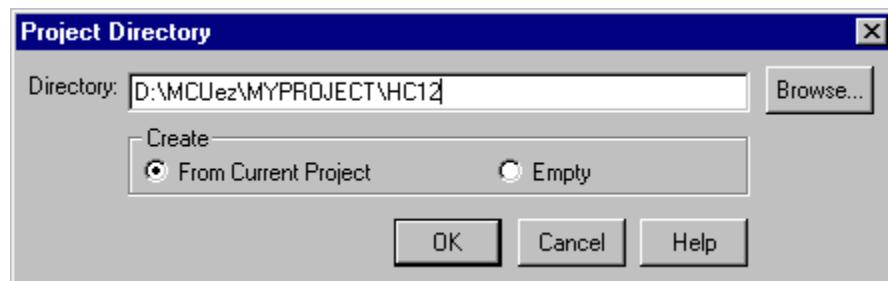

Figure 3-4. Defining a New Project
4. Enter the directory path or browse to the directory, as shown in **Figure 3-4**.